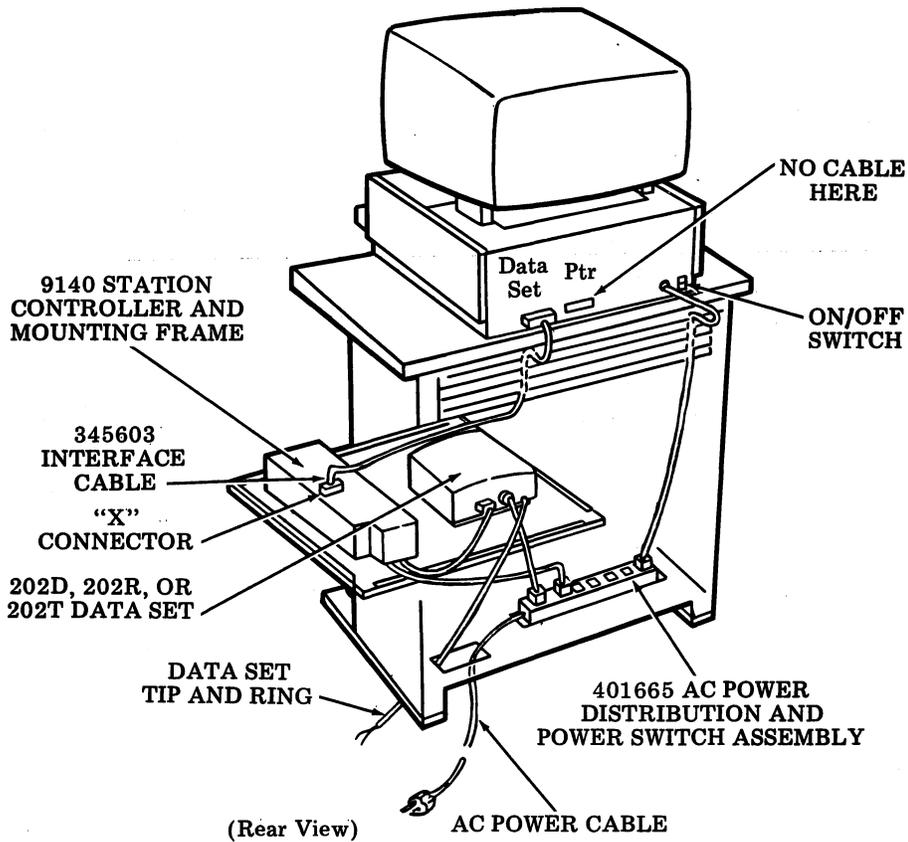

Fig. 20
J. Cabling (Fig. 20 through 29)